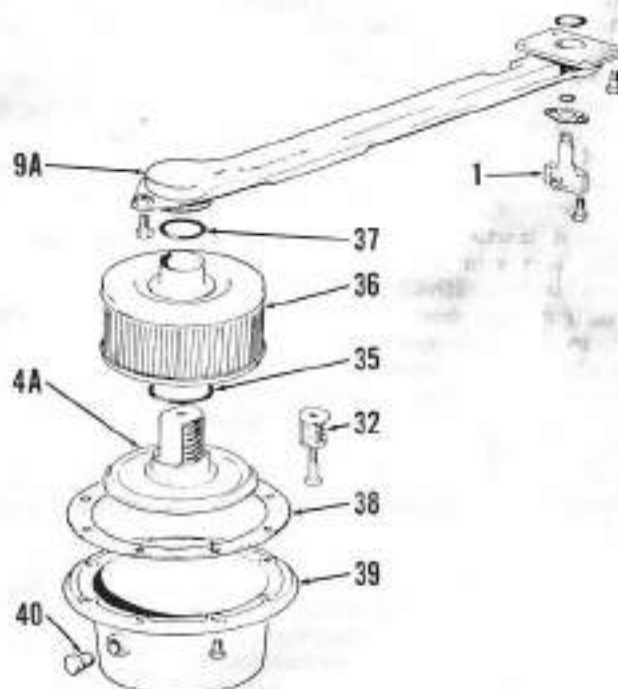

Fig. 276—Exploded view of pump suction filters and covers for early and late 1210, 1212, 1410 and 1412 models.
The suction strainer screen (4A-Fig. 275 or Fig. 276) and magnet (32) can be cleaned on models so equipped; however, filter element (36) must be renewed. A warning light is provided on instrument panel of some models which, if lighted, indicates low pressure in pump suction tube usually caused by clogged filter element (36).